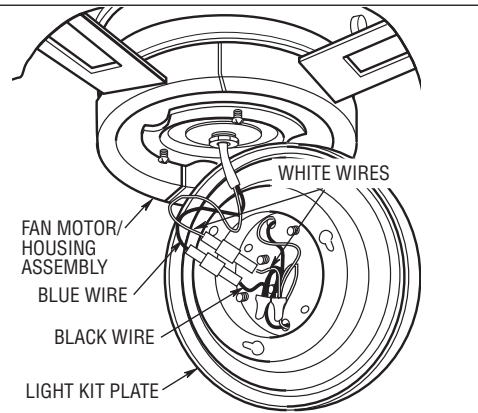

Figure 18
1. Detach the light kit plate from the fan motor/housing assembly by removing one screw and loosening the two other screws (located in the keyholes). Rotate the light kit plate counter-clockwise to disengaging the screws in the two key hole slots (Figure 18).